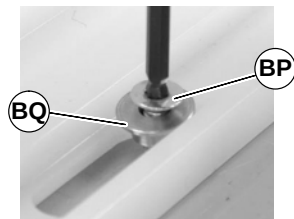

Figure 58
2. With a T-20 Torx head wrench, remove screw (BP of Figure 58) and bushings (BQ). Remove old wear strip.